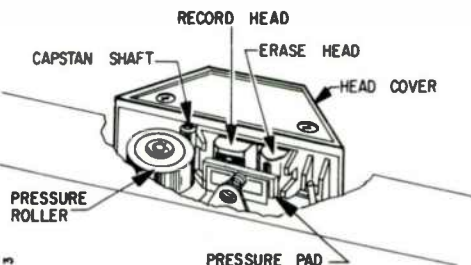

FIGURE 8
During the normal operation of this tape recorder, deposits of a dull, reddish-brown colored substance will appear on the parts shown in Figure 8. This accumulation is due to a small amount of the oxide surface of the magnetic recording tape rubbing off during usage.
4. Rub cloth tape across surface of heads and capstan by moving tape across parts shown in Figure 8. This will assure a thorough cleaning and high polish on critical portions of the heads.